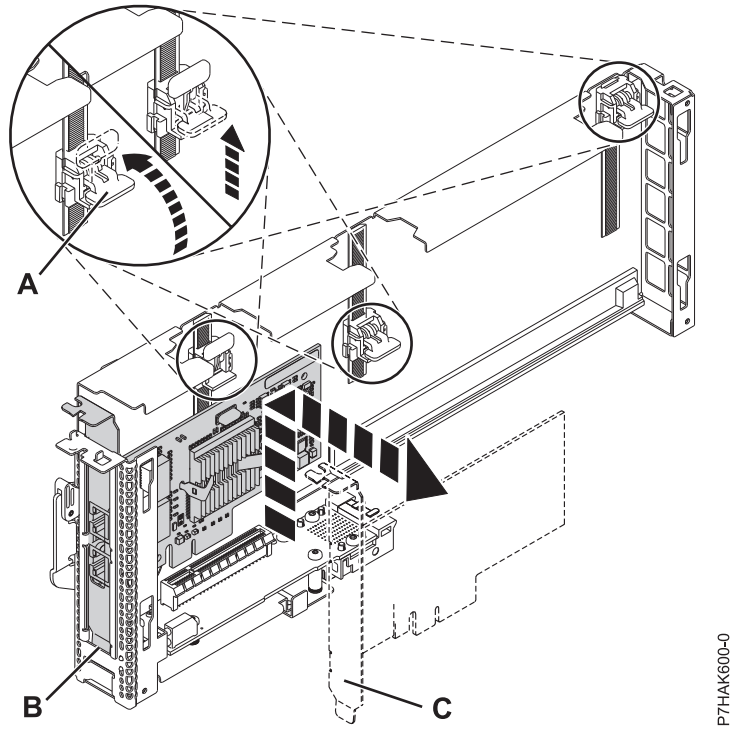

Figure 27. Adapter removed from the PCI adapter cassette
- a. Unlock the adapter retainers by rotating the retainer clips (A) into the horizontal position. See Figure 27 on page 37.